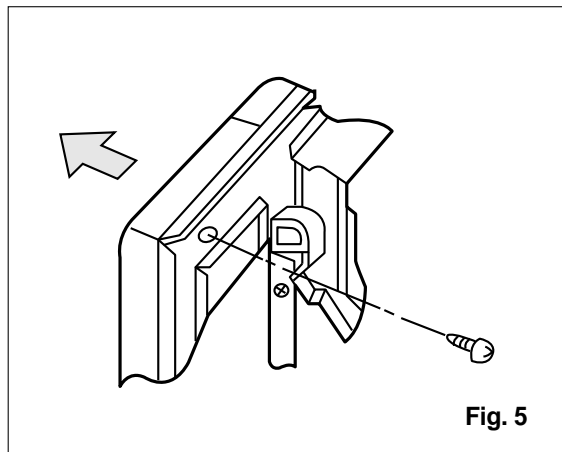

Fig. 5
5. To remove control panel assembly. (Refer to Fig. 5, 6)